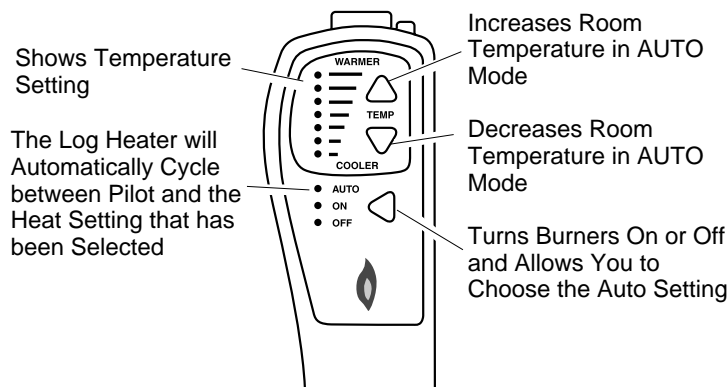

Figure 29 - Thermostat Hand-Held Remote Control Unit Selections (GHRCT Series Only)
- 2b. Press the AUTO/ON/OFF button on the hand-held remote control (see Figure 29). The lights to the left of the button will show AUTO, ON, or OFF.